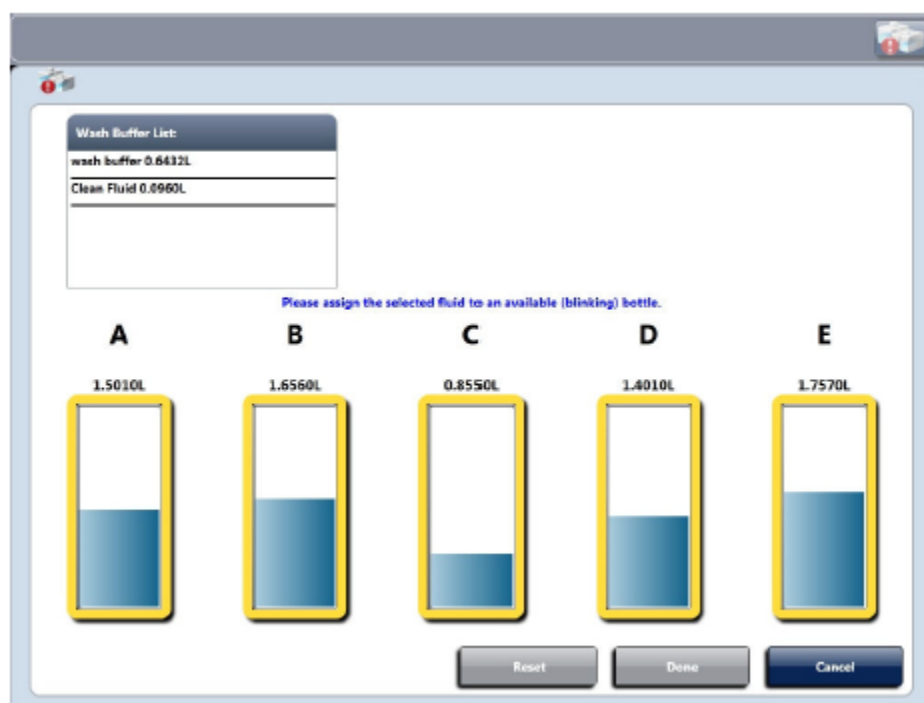

Figure 5-12: Fluid Load Screen
12. Press the *Wash Load alert* icon to present the *Fluid Load* screen (Figure 5-12) and assign the listed fluids to the bottle locations of the loaded fluids. Remove one of the Wash bottles from the system, fill with enough fluid listed in the *Wash Buffer List* to run the assay, and re-load into the system.